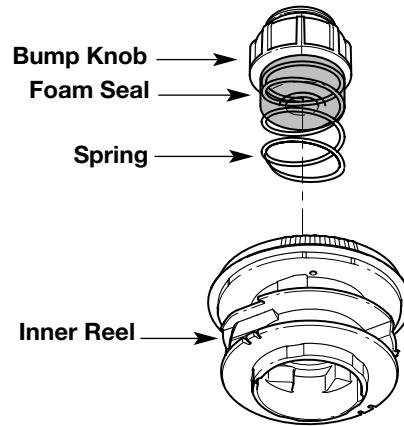

Fig. 14
1. Turn the Bump Knob counterclockwise and remove the bump knob, spring, and foam seal (Fig. 14).
2. Pull out the bump knob, spring, and foam seal (Fig. 14, Pg. 9).
3. Pull the inner reel with existing line from the outer spool (Fig. 14, Pg. 9).
7. Place the bump knob, spring, and foam seal into the inner reel (Fig. 14, Pg. 9).